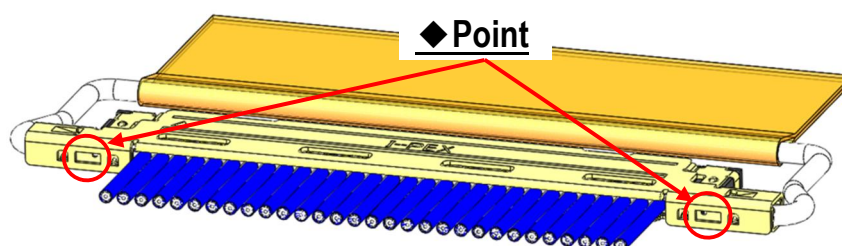

Fig.13 Soldering of Shell-A and Shell-B
- ④ Soldering shell-A and shell-B with the soldering iron at all designated points (Fig.13 ◆ point)
※ In case of soldering discrete cable, soldering at Fig.13 ◆ point is necessary.